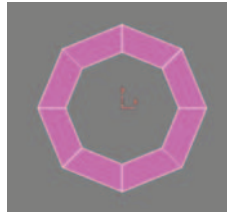

Figure 5.1 TubeCap primitive with eight segments.
1. Go to the top viewport, and create a TubeCap. You don’t need to worry about scale right now, as this is just an exercise. I used an inner radius of 8, an outer of 12, and eight segments (Figure 5.1).